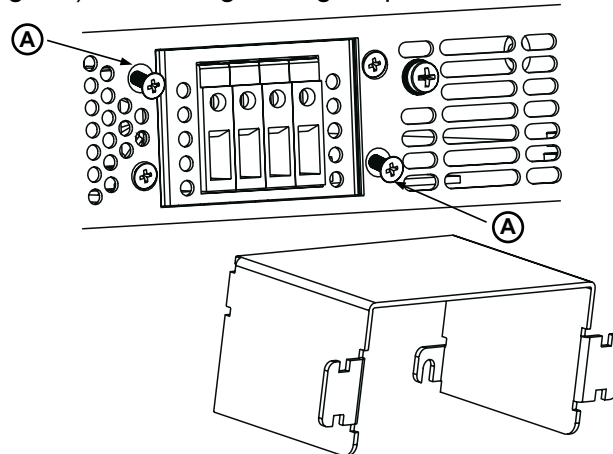

Fig.3-8: Shield assembly
4. Loosen the two chassis screws marked "A" halfway as shown in Fig.3-8.
5. Assemble the protective shield to the chassis and tighten the two screws to fix the shield to the chassis(see Fig.3-8). Screws tightening torque: 4.8-5.3 Lb-inch.